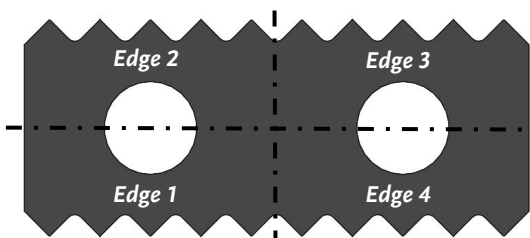

**Figure 37**
- A new Chipper Knife has a  $5/16$ " measurement between the short side bevel edge and the Knife mounting holes (**Figure 37**).